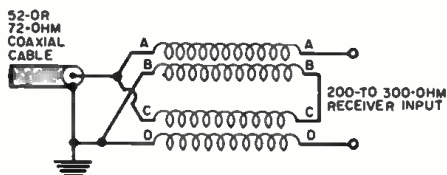
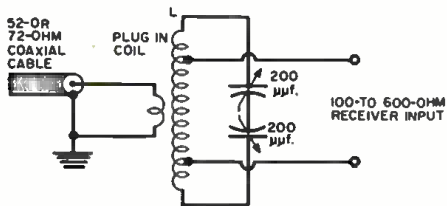

Fig. 7. Balun circuit discussed in text.
Fig. 8. Link coupling method of matching.
Figs. 7, 8, and 9 show three popular methods of impedance matching for r.f. work. The balun circuit of Fig. 7 not only makes a conversion from an unbalanced line to a balanced load but gives a 4 to 1 impedance transformation as well. The 4 to 1 ratio is fixed and may not be suitable for use over the entire receiver range. Balun coils may be fabricated per instructions found in amateur handbooks or may be purchased at very low cost from TV repair shops or local radio parts dealers. These baluns are of the type found in TV tuners where they are used for impedance-matching purposes. Baluns designed for lower frequency work are also available but are normally designed for transmitter application which results in a larger and more costly arrangement. The TV baluns
The circuit of another useful matching circuit that the author uses for all-band coverage is shown in Fig. 8. This circuit is the familiar antenna tuner circuit so often used for coupling between the link output of a final amplifier and an open-wire or other high-impedance line. For receiver work, the antenna tuner coupling link connects to the low-impedance transmission line while the higher impedance tap points feed the balanced receiver input. Fig. 8, like the balun circuit, also provides the means of going from unbalanced line to a balanced load. The coil can be a low-power, plug-in type normally used in low-power excitors or it may be fabricated from "Miniductor" stock. The tuning capacitor need only have re-
Another simple matching circuit is shown in Fig. 9 and is recognizable as the popular pi-network. Here, again, the circuit is used to go from a low impedance to a higher impedance, just the reverse of what is normally accomplished when used in the plate circuit of a final amplifier. The coil (L) may be made from "Miniductor" stock cut to size and tapped by experimentation. Capacitors (C_1) and (C_2) can be 500 $\mu\text{f.}$ and 150 $\mu\text{f.}$ receiving-type variables, respectively. Other impedance-matching networks may be used as long as the match we are seeking is accomplished. The circuits shown in Figs. 7, 8, and 9 are about the simplest for the individual to construct and adjust.
either of the test arrangements shown in Figs. 5 or 6. If the balun circuit of Fig. 7 is used, no adjustment can be made. The antenna bridge will indicate the impedance which will be reflected to the line by the matching device. The s.w.r. indicator will indicate a mismatch in terms of the standing waves existing on the transmission line. In the case of Figs. 8 and 9, one need only adjust the variable components and taps until the s.w.r. indicator shows unity s.w.r. or the antenna bridge, if used, indicates that the load reflected by the matching circuit at the receiver antenna input terminals is the same as that of the transmission line being used.